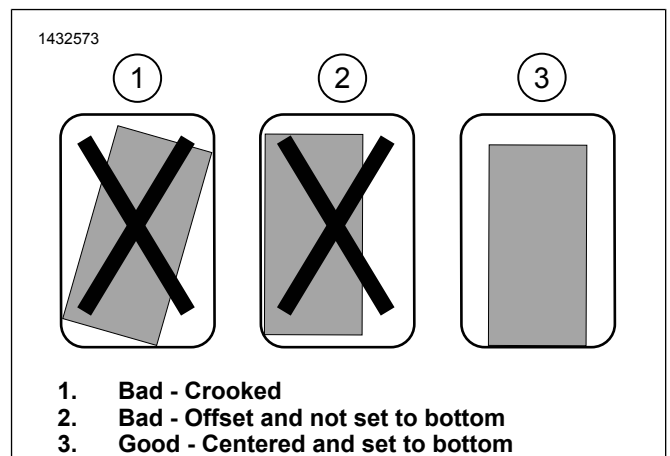

Figure 11. Mount Bracket Installation
- See Figure 11. Test fit mount bracket. Bracket must be straight, centered, and as close to the bottom of the saddlebag as possible.
- See Figure 11. Test fit for final location ensuring bracket is straight, centered, and as close to the bottom of the saddlebag as possible.